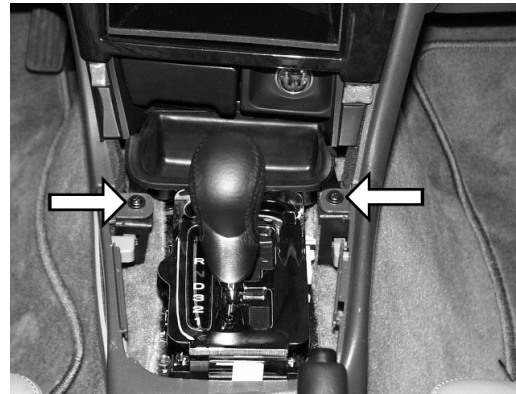

Figure 2
2. Remove the tray by removing the two screws indicated by arrows in Figure 2.